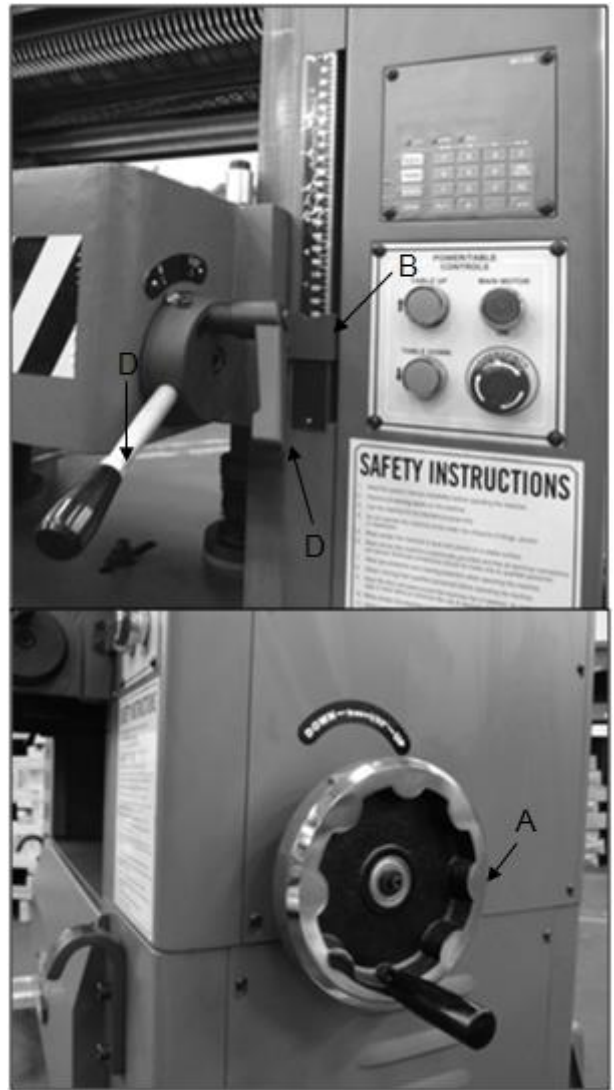

Figure 7
Turn the handwheel A (Fig. 7) clockwise to raise the table. One revolution equals 1/32" or 0.03".
2. Adjust the pointer B (Fig. 7) by loosening the screw that holds it in place.